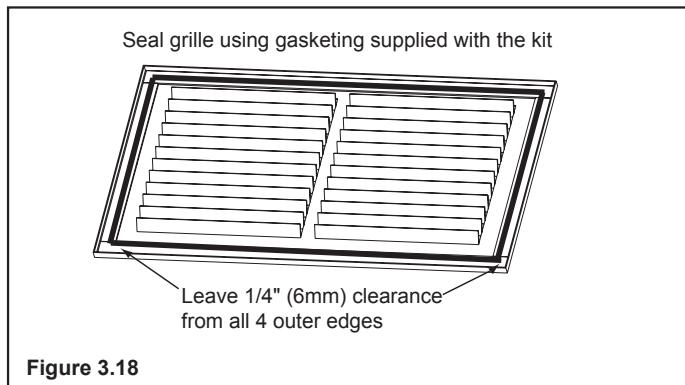

Figure 3.18
- Seal all the way around the inside of the return air grille to prevent hot air being drawn back into the venting system using gasketing supplied with the kit. Leave 1/4 in. (6 mm) clearance from all four outer edges. Trim excess gasketing. See Figure 3.18.